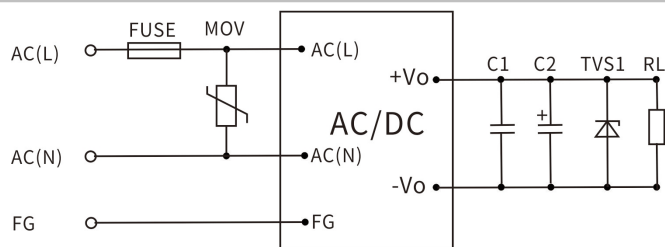
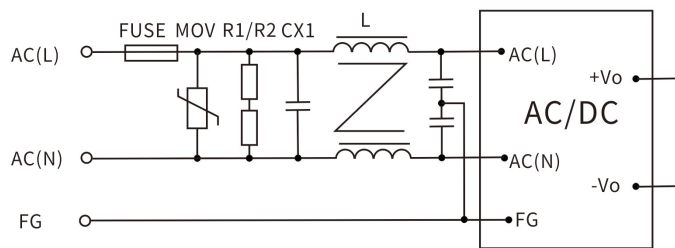

图1
图4
Radiated Emission	CISPR22/EN55032 CLASS B (典型 EMC 应用图 4)
- For general application requirements, customers should use the recommended circuits shown in Figures 1, 2, and 3. If higher EMC requirements are needed, please use the recommended circuit shown in Figure 4.
- The specific recommended values for Figure 4 are as follows: